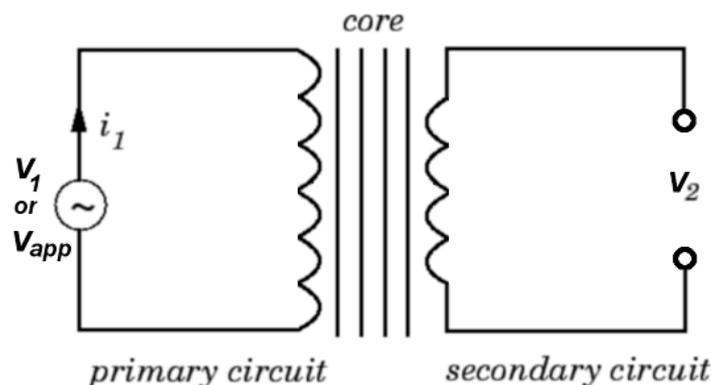

Figure 2.1: Open 2ndary circuit
2.2) If the secondary circuit is OPEN (Fig. 2.1) then no secondary current can flow.